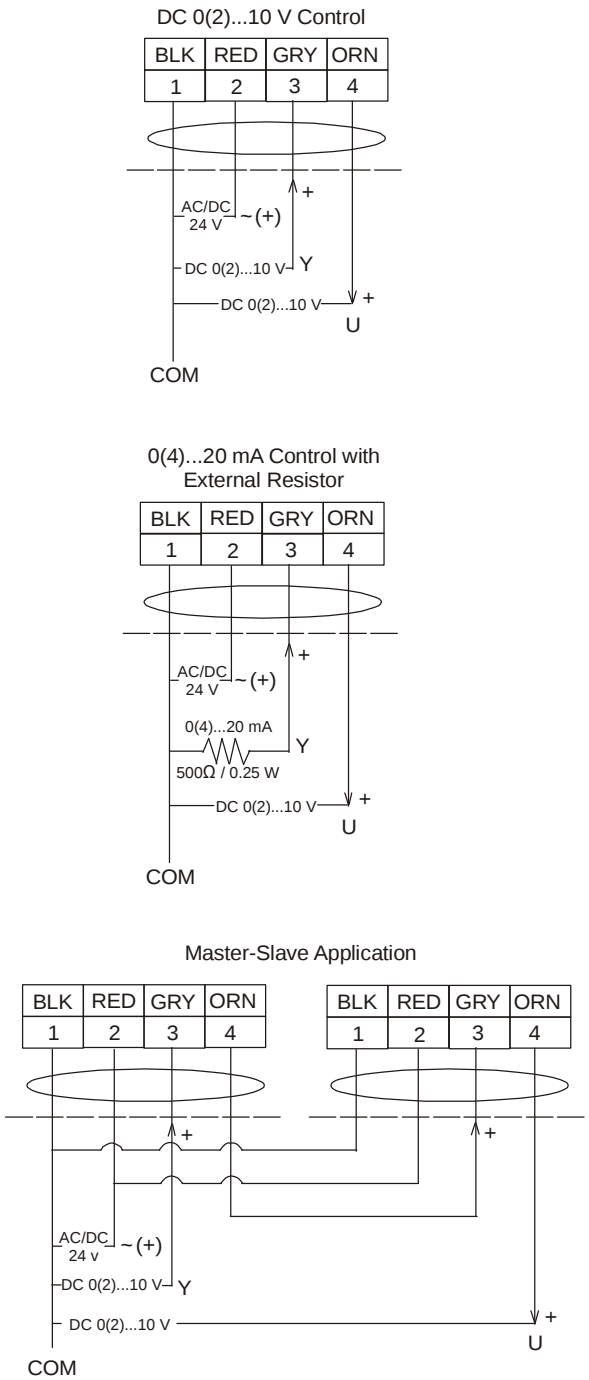
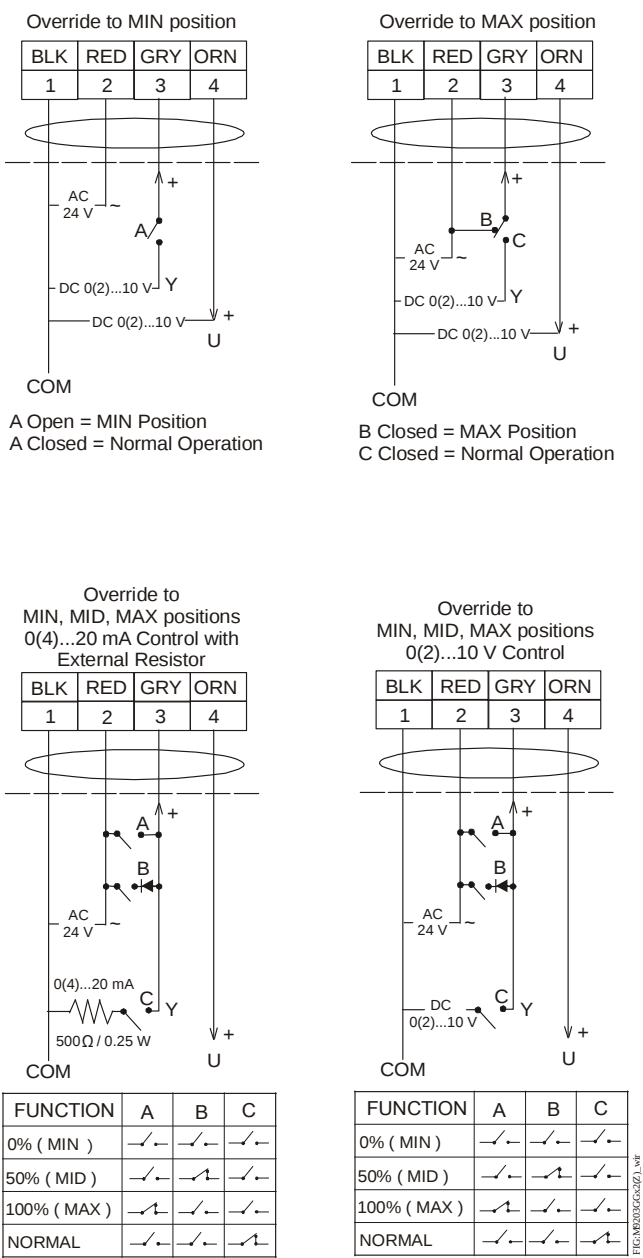
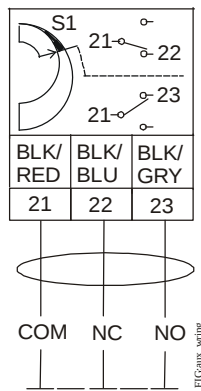

Figure 9: Control Wiring Diagrams
Figure 10: Control Wiring Diagrams (Overrides)
Figure 11: Auxiliary Switch Wiring Diagram
See Figure 9, Figure 10, and Figure 11 to wire the applicable M9203-GGx-2(Z) Series model